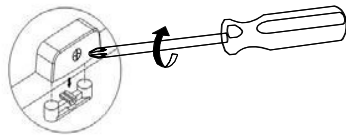
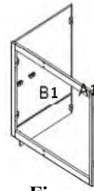

Figure 2
Figure 3
- 3. Insert left side panel (B1)** into the grooves of face frame (**A1**) on the magnetic latch side. Align the plastic half part of the cam lock connectors. Make sure it fits and lock connectors with screwdriver by turning the screw located on the cam lock connector to the right 180° (**Figure 2**) Stand up side panel up right at this time. (**Figure 3**)